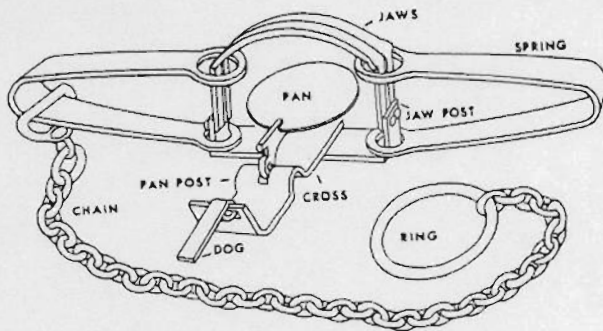

Figure 17. Foot-hold trap and its parts.
Now let's consider trapping beaver with foot-hold traps, see *Figure 17*. There are two conditions often referred to in beaver trapping: (1) open water trapping and (2) trapping under the ice. Open water